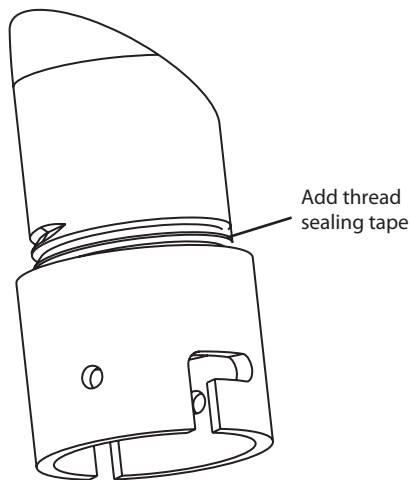

Figure 1
- 3 Attach the housing coupling to the bracket or pendant pipe (Figure 1).